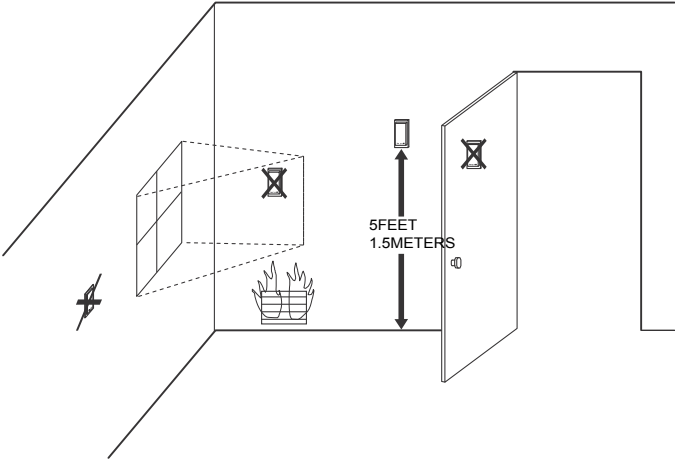

Fig. 27. Typical location for Indoor Sensor.
**1.** Choose a location (see Fig. 27) for mounting the sensor on an inside wall about 5 ft (1.5m) above the floor.
**3.** Make sure there is good air circulation at average temperature at the chosen location. Avoid the following locations because they can introduce errors in sensor measurements. See Fig. 27.